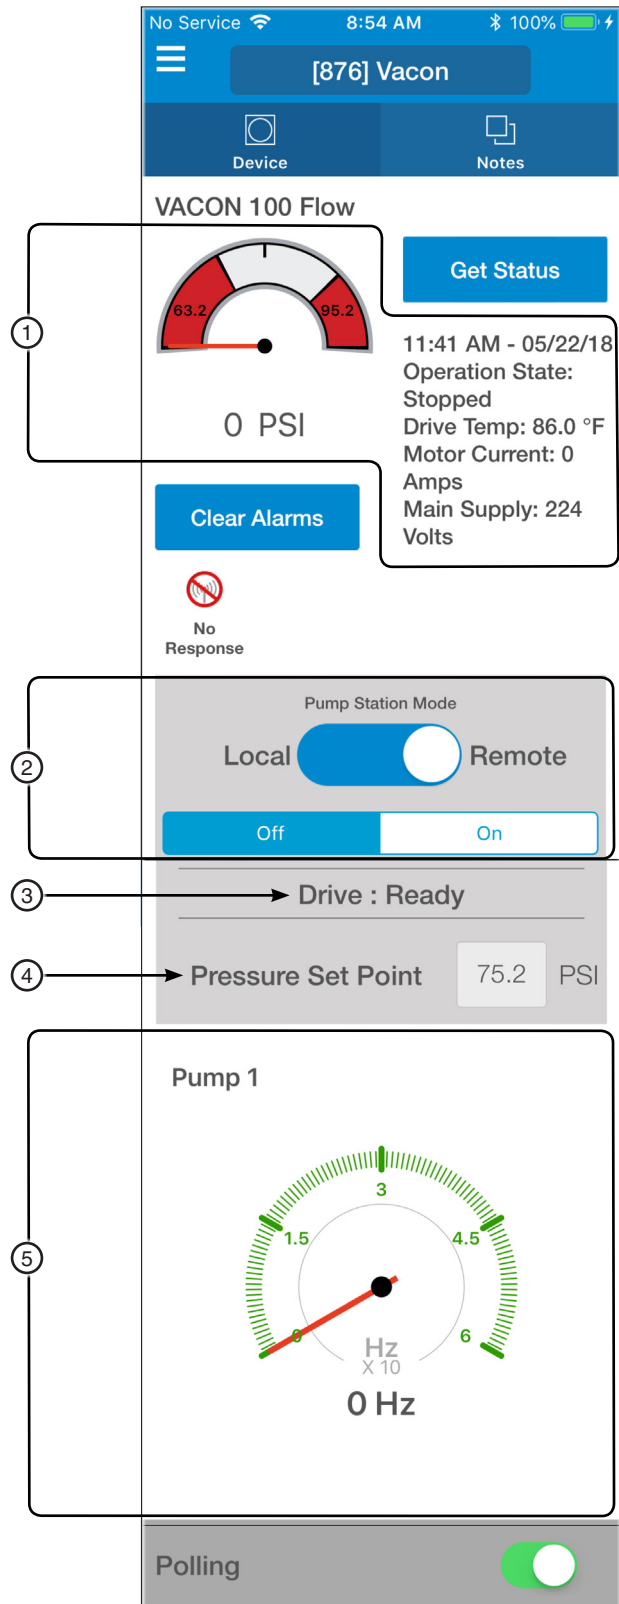

Figure 52-1 1. Operation State 4. Pressure Set Point
Operation State (1): The Device status screen includes graphic icons for the device and status details. Graphic icons for each pump are also displayed. See Figure 52-1.